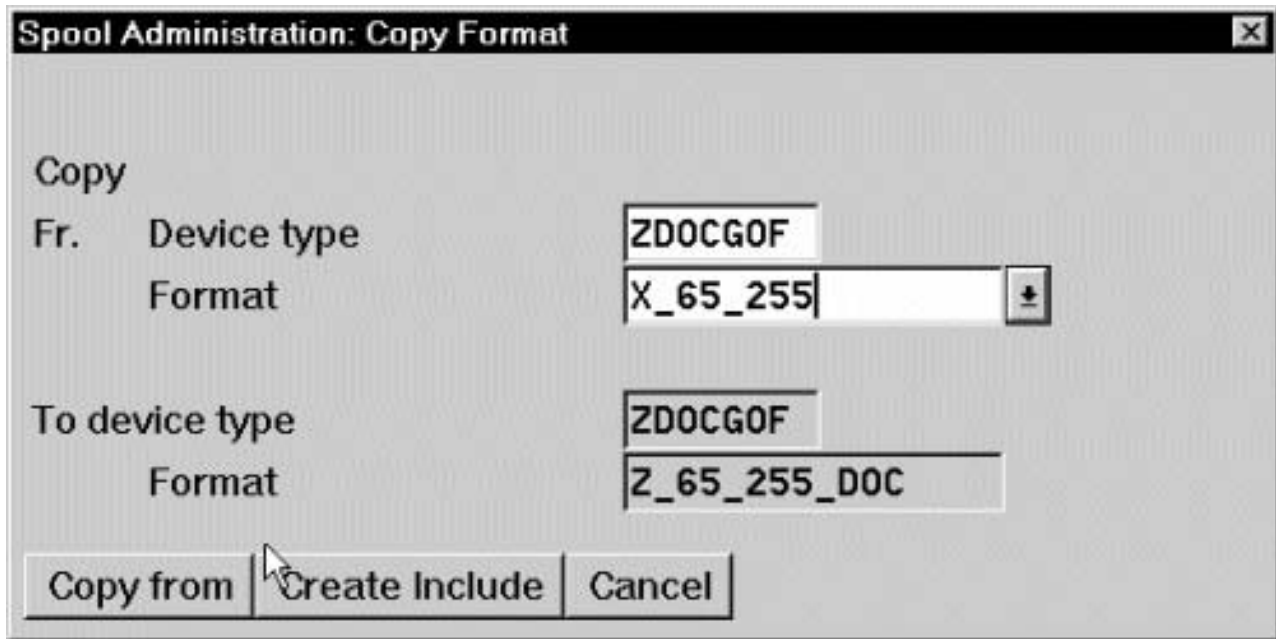

Figure 59. Spool Administration: Copy Format window
7. From the Spool Administration: Copy Format window, you can see that the system has filled in the information from the Maintain Format for Device Type window as shown in Figure 59 on page 139: